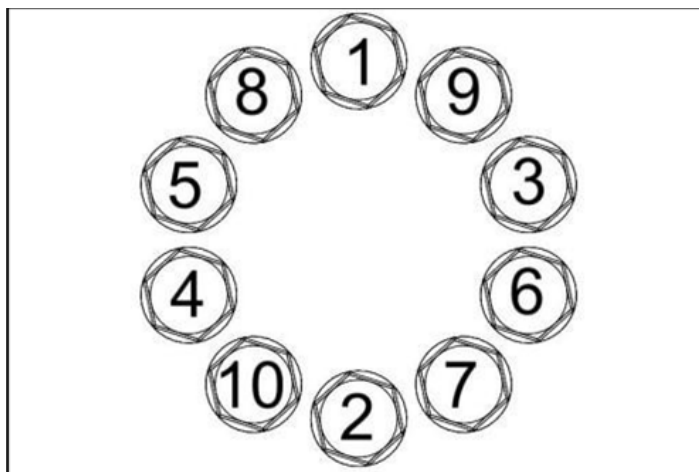

Figure 142.
12. Tighten the bolts in three steps in the following sequence (Figure 142).